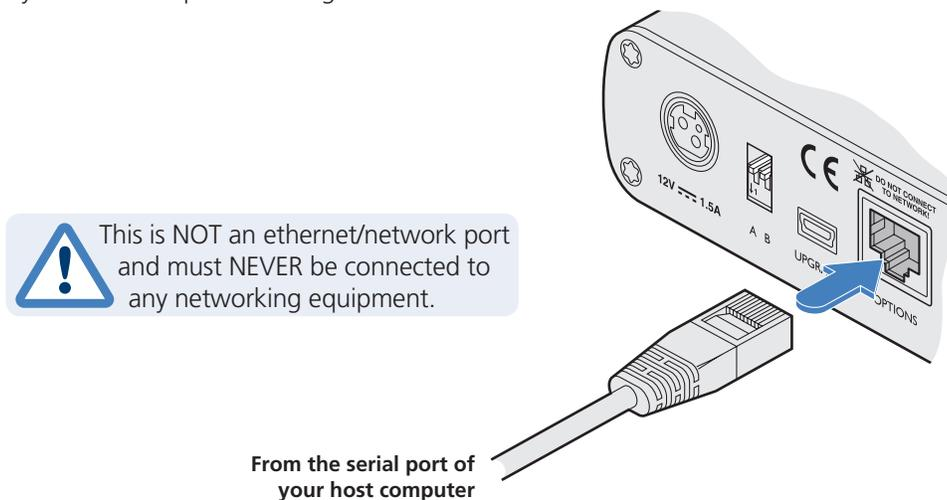

Figure 3-4. Connecting a serial cable to the OPTIONS port on the local module.
1. Use the optional serial cable to link the Options port on the rear panel of the local module with a vacant RS232 serial port on your host computer. See Figure 3-4.